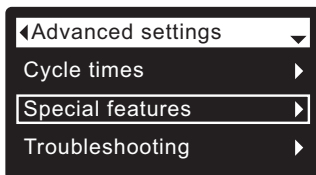

FIG. 81
3. Press the SELECT (O) button to display the Advanced settings menu (See Figure 81).